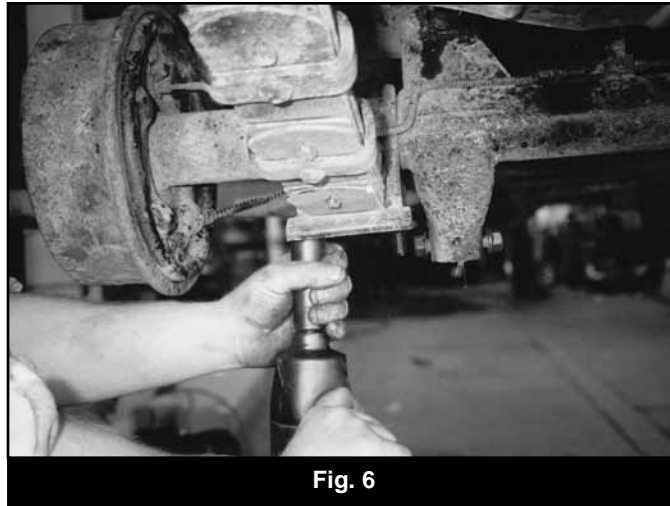

Fig. 6
28. Position u-bolt plates and install the new u-bolts, washers and nuts along with the new bump stop contact extensions. These are retained by the outer u-bolts. **Note:** BDS 3.5" YJ box kit #014351 includes these. The 2" BDS system, box kit #014200, does not require or include bump stop contacts. (Fig. 6)